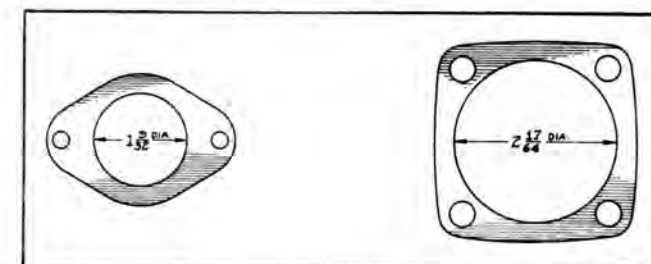

Fig. No. 2
1. Adjust steering gear post to remove end play or bind. Use shim as shown in Fig. No. 2.